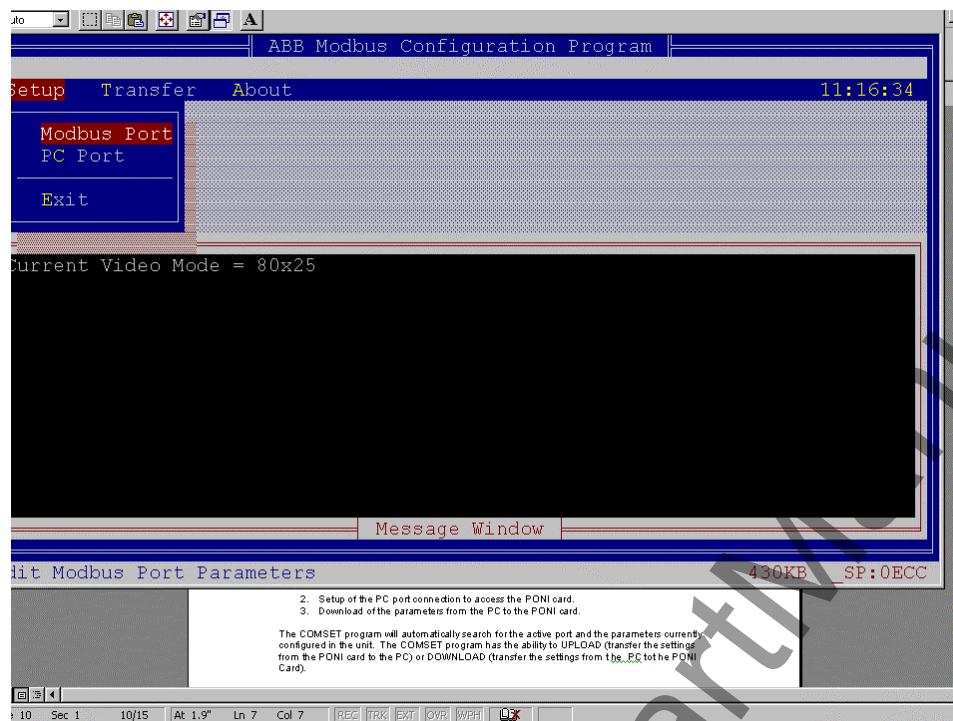
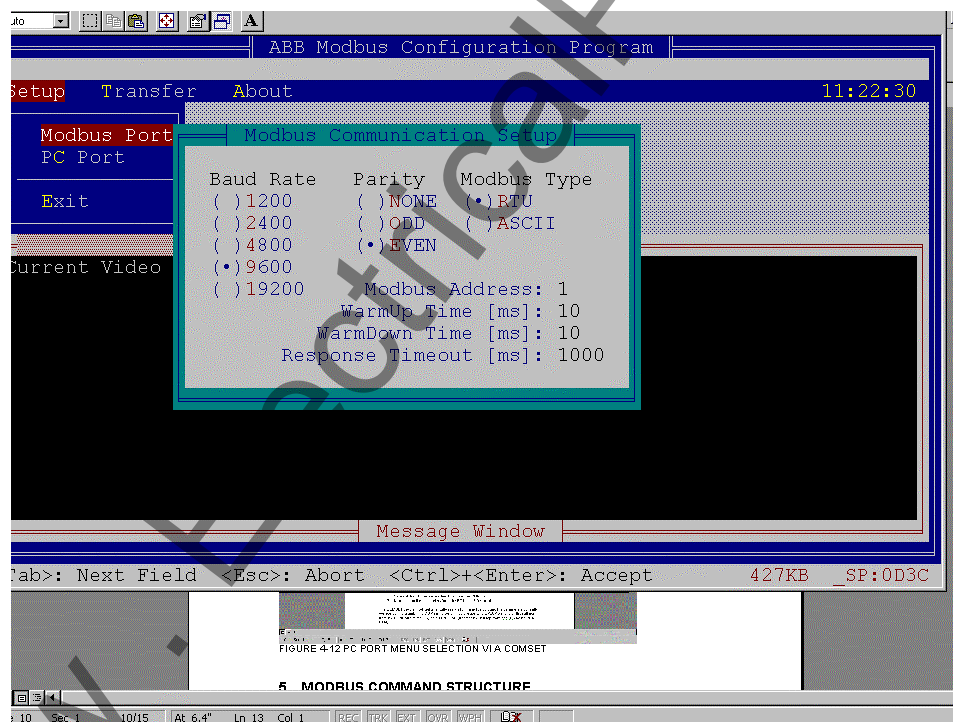
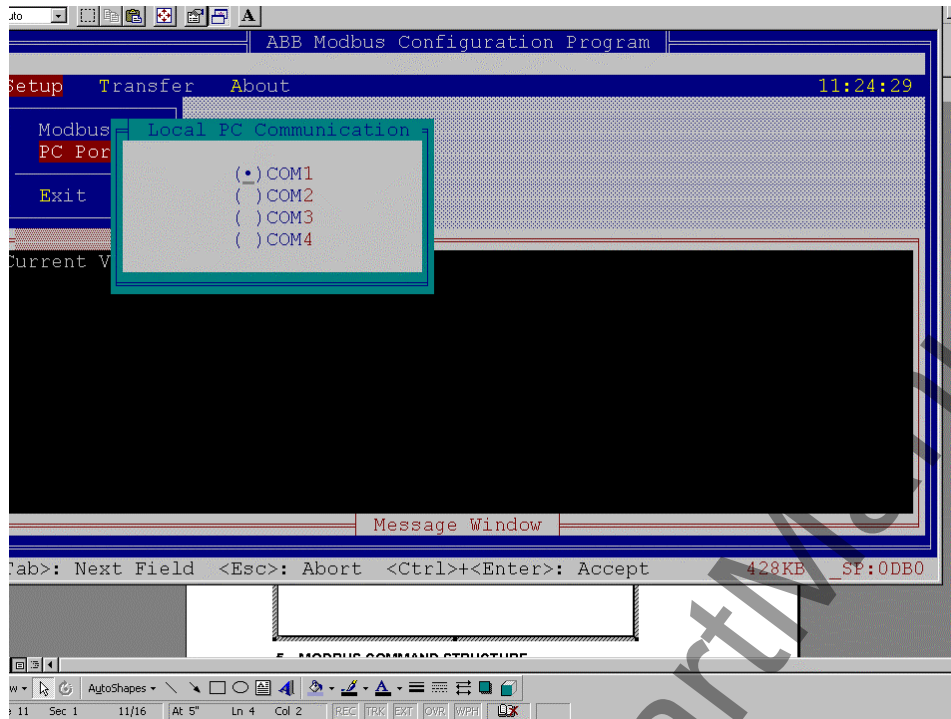

Figure 4 - PC Port Menu Selection VIA Comset
Figure 5 – MODBUS PONI –M Configuration Menu Presentation
Figure 6 - MODBUS PONI –M PC PORT Configuration Screen Presentation
The COMSET program will automatically search for the active port and the parameters currently configured in the unit. The COMSET program has the ability to UPLOAD (transfer the settings from the PONI card to the PC) or DOWNLOAD (transfer the settings from the PC to the PONI Card). The user must select the SETUP menu item. The screen presented to the user is shown in Figure 4. Menu settings for the PC port to communicate with the MODBUS PONI [PONI-M] are shown in Figure 5. Menu settings for configuration of the MODBUS PONI card port settings are shown in Figure 6.
11. With the "SETUP" parameter highlighted, select the ProtConv Modbus Setup submenu selection, until the following screen is displayed. The parameters listed in Figure 5 match those in the protective device configuration (Step 7). After selection of all parameters, simultaneously depress the "CONTROL and ENTER" key on the configuration terminal's keyboard.
12. With the "SETUP" parameter highlighted, select the PROTCNV CONITEL Setup submenu selection, until the following screen is displayed. The parameters listed in Figure 6 match those in the CONITEL Host. After selection of all parameters, simultaneously depress the "CONTROL and ENTER" key on the configuration terminal's keyboard.